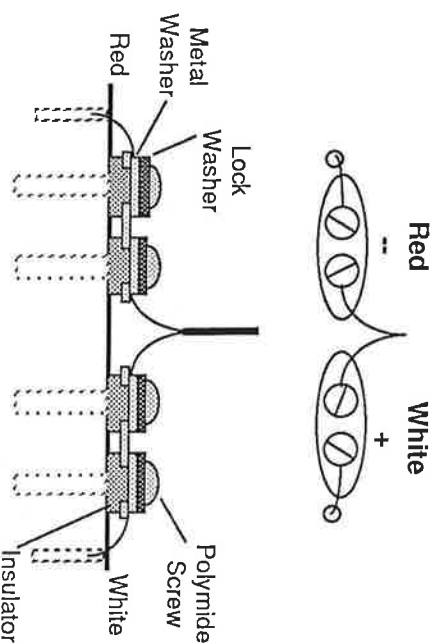

Figure 12 - Thermocouple Wire
On the forward right edge of the housing the Type J thermocouple is attached to a pair of terminals, labeled WHT (+) and RED (-). The (+) lead on the thermocouple is attached to the inside terminal of the pair connected to the white wire coming from inside the housing. The (-) lead is attached to the inside terminal of the pair connected to the red wire from inside the housing. Figure 12 shows the correct position of the thermocouple wire. Refer to Table 3 in the Appendix for appropriate thermocouple color codes.
1. If not already attached, connect the type J thermocouple to the terminals -- iron to the white (+) terminal and constantan to the red (-) terminal. Make this connection between the metal plate and metal washer. Refer to Figure 12 in the Physical Description section of this manual to be sure the leads are positioned correctly.